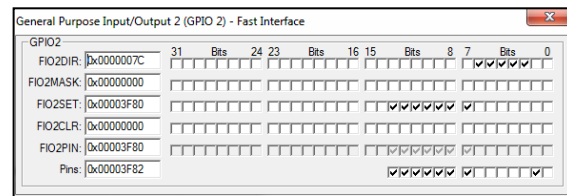

Fig. 17: GPIO Peripheral Window
3. To open the GPIO 2 analyzer (LED simulator), select Peripherals >> GPIO Fast Interface >> Port 2. A window will appear as shown in Fig. 17. Also, open Port 1, i.e., Peripherals >> GPIO Fast Interface >> Port 1 (as the first 3 LEDs belong to Port1, last 5 belong to Port 2).